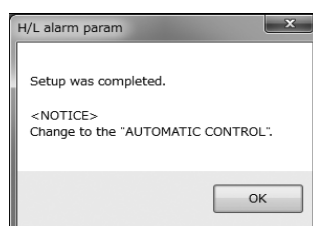

Fig.69
- ⑥ Click "OK" to change the settings to the inputted values, and then click the "OK" button in the displayed message box (Fig. 69) to complete the setting process.